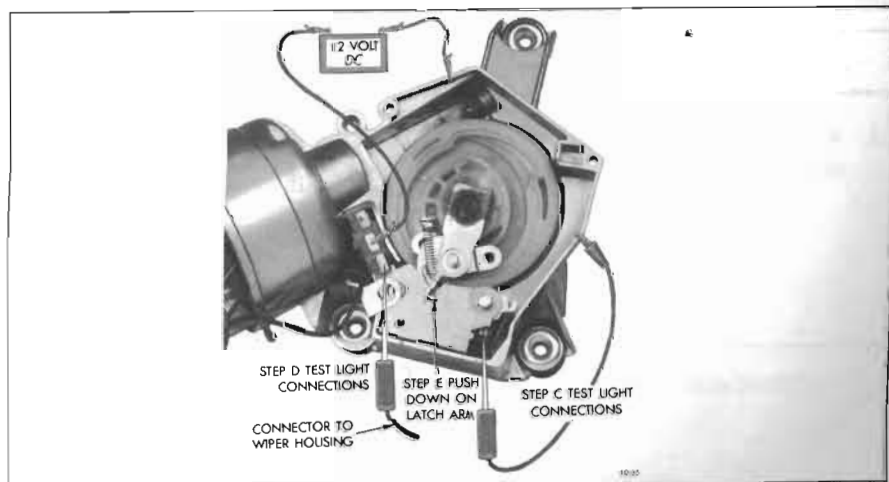

Figure 10-35—Test Light Checks
b. Connect 12V power source to wiper - hot side to center terminal, ground side to gear housing. See Figure 10-35. Do not connect jumper to Terminal 1 and 3.
c. To determine if wiper circuit breaker is O.K., connect test light to relay switch terminal as shown in Figure 10-35.
(1) Test Lamp Lights. Circuit from Terminal No. 2 through circuit breaker to relay - switch O.K.
(2) Test Lamp Doesn't Light. Circuit breaker or solder connections at circuit breakers defective.
d. To determine if relay coil is open connect test lamp to wiper Terminal No. 1, Figure 10-35.
e. Test relay switch as follows: If gear mechanism is in full park position, use a small screwdriver in the switch slot and push latch arm down toward relay coil. See Figure 10-35. Next, remove a small amount of insulation from black lead with pink tracer and touch test lamp to exposed wire.
(1) Test lamp lights but motor doesn't run - proceed to Step (f).
(2) Test lamp doesn't light - relay-switch defective